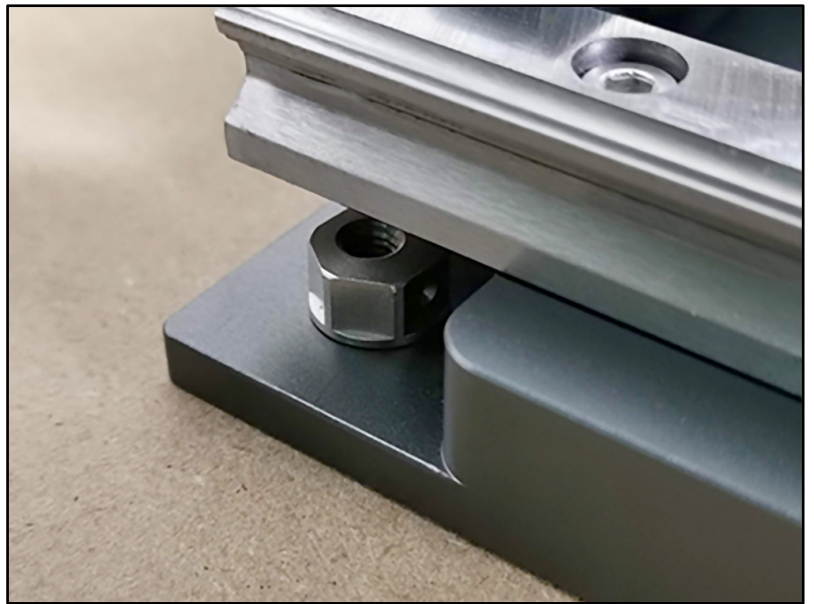

Figure 3
- HD Eccentric Nut (2)
2. Rotate them so the dimples on one side of the eccentric nuts face upwards—this is the loose/open position. See **Figure 3**.